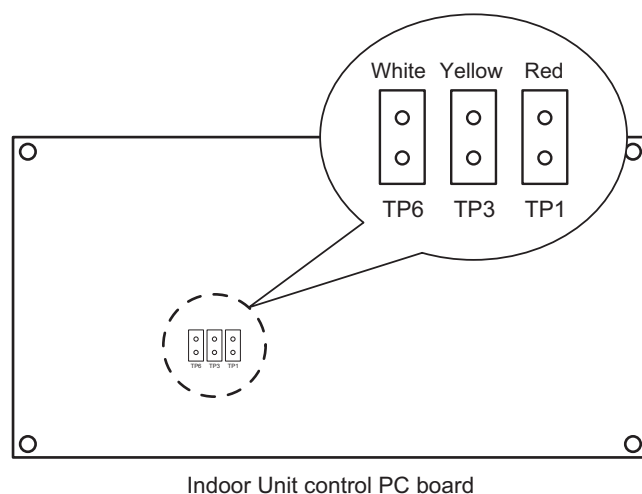

Fig. 1-11-7-15
2. Open the lid of electrical component box and check where the short-circuit pin on the indoor unit control PC board is located (Fig. 1-11-7-15)
Refer to table 1-11-7-3 and Fig. 1-11-7-16 and select a value between "0001" and "0015".